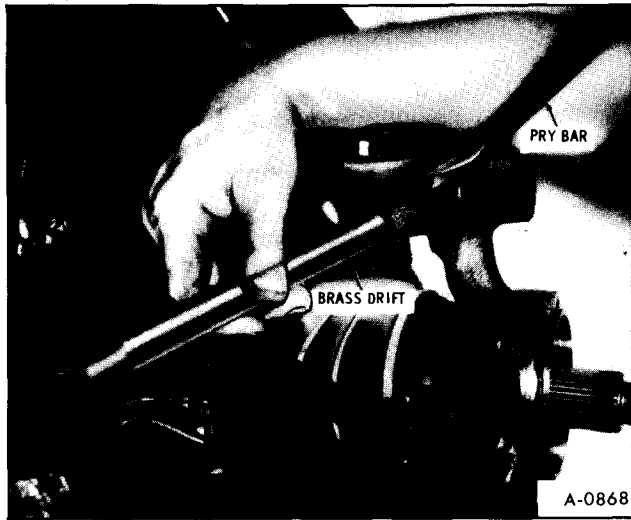

Figure 13—Removing Upper Ball Joint
4. Using a brass drift and hammer, Figure 13, loosen upper ball joint stud.
5. Using hammer and a drift, Figure 13, drive on spindle until upper ball joint stud is disengaged.